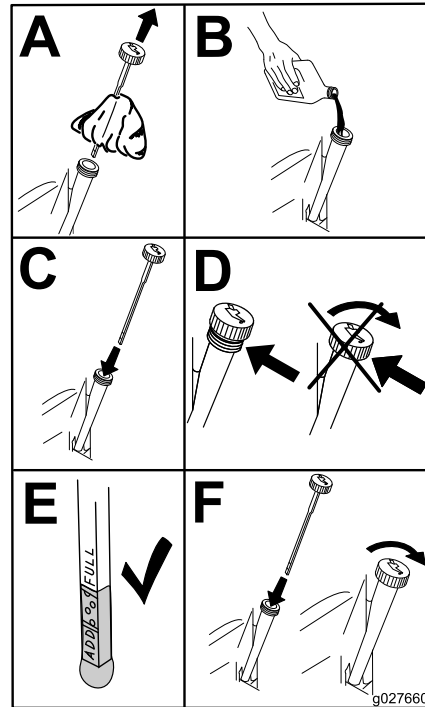

Figure 52
5. Slowly pour approximately 80% of the specified oil into the filler tube and slowly add the additional oil to bring it to the **Full** mark (Figure 52).